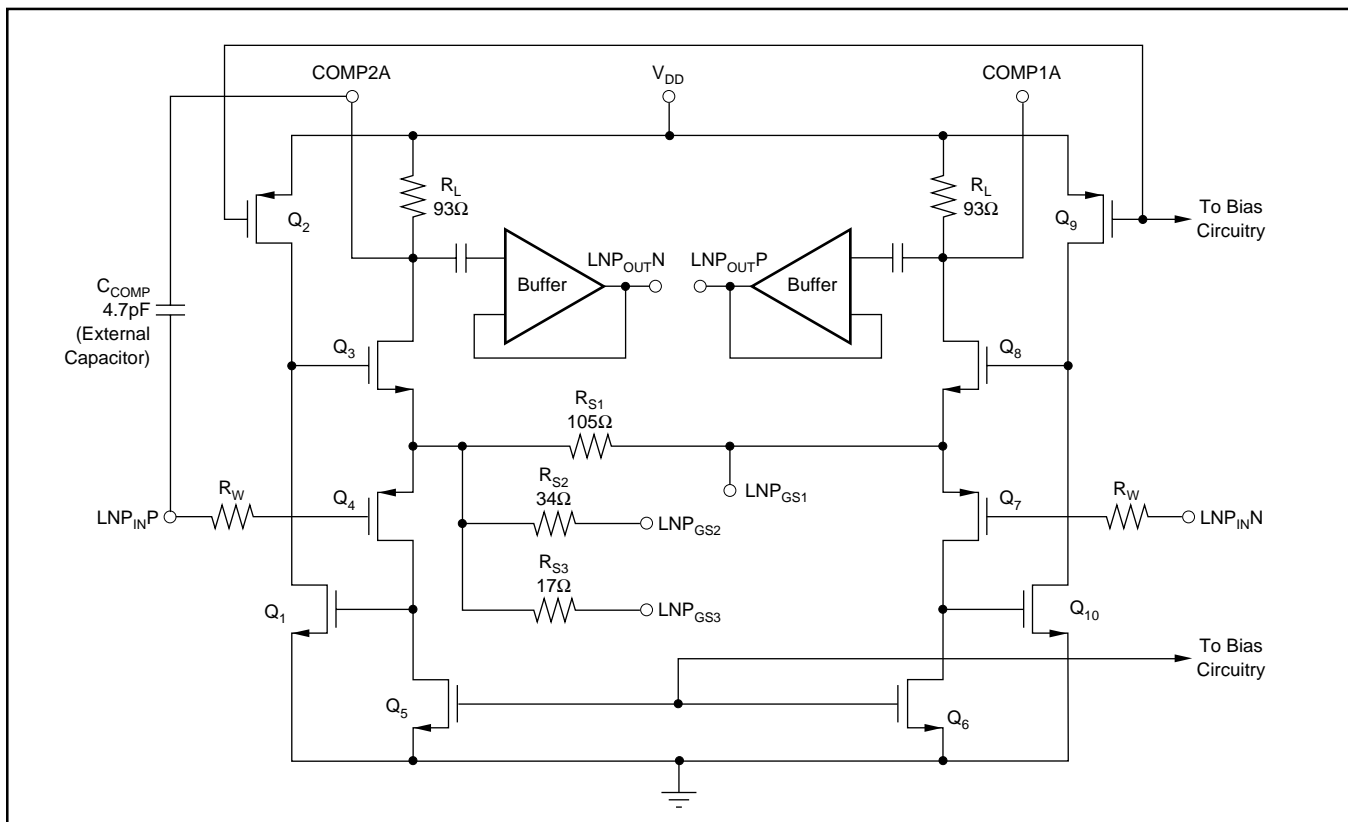
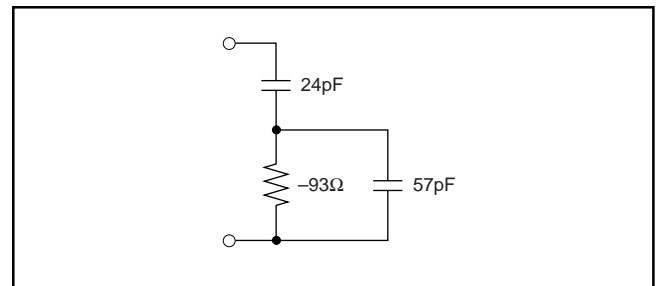

FIGURE 4. Schematic of the Low Noise Preamp (LNP).
FIGURE 11. VCA2613 Input Impedance.
The LNP is designed to achieve a low noise figure, especially when employing active termination. Figure 4 is a simplified schematic of the LNP, illustrating the differential input and output capability. The input stage employs low resistance local feedback to achieve stable low noise, low distortion performance with very high input impedance. Normally, low noise circuits exhibit high power consumption due to the large bias currents required in both input and output stages. The LNP uses a patented technique that combines the input and output stages such that they share the same bias current. Transistors *Q₄* and *Q₅* amplify the signal at the gate-source input of *Q₄*, the +IN side of the LNP. The signal is further amplified by the *Q₁* and *Q₂* stage, and then by the final *Q₃* and *R_L* gain stage, which uses the same bias current as the input devices *Q₄* and *Q₅*. Devices *Q₆* through *Q₁₀* play the same role for signals on the -IN side.
It is also possible to create other gain settings by connecting an external resistor between $LNPG_{S1}$ on one side, and $LNPG_{S2}$ and/or $LNPG_{S3}$ on the other. In that case, the internal resistor values shown in Figure 4 should be combined with the external resistor to calculate the effective value of R_S for use in Equation (1). The resulting expression for external resistor value is given in Equation (2).
where R_{EXT} is the externally selected resistor value needed to achieve the desired gain setting, R_{S1} is the fixed parallel resistor in Figure 4, and R_{FIX} is the effective fixed value of the remaining internal resistors: R_{S2} , R_{S3} , or $(R_{S2} \parallel R_{S3})$ depending on the pin connections.
For greatest flexibility and lowest noise, the user may wish to shape the frequency response of the LNP. The COMP1 and COMP2 pins for each channel (pins 10 and 11 for channel A, pins 26 and 27 for channel B) correspond to the drains of Q_3 and Q_8 , see Figure 4. A capacitor placed between these pins will create a single-pole low-pass response, in which the effective R of the RC time constant is approximately 186Ω .
The VCA2612 and the VCA2613 are very similar in performance in all respects, except in the area of noise performance. See Figure 4 for a schematic of the LNP. The improvement in noise performance is because the input wiring resistor (R_W) of the VCA2613, see Figure 4, has been considerably reduced compared to the VCA2612. This brings the input noise of the VCA2613 down to $1.0\text{nV}/\sqrt{\text{Hz}}$ compared to VCA2612's $1.25\text{nV}/\sqrt{\text{Hz}}$. The input impedance at the gate of either Q_4 or Q_7 can be approximated by the network shown in Figure 11. The resistive component shown in Figure 11 is negative, which gives rise to unstable behavior when the signal source resistance has both inductive and capacitive elements. It should be noted that this negative resistance is not a physical resistor, but an equivalent resistance that is a function of the devices shown in Figure 4. Normally, when an inductor and capacitor are placed in series or parallel, there is a positive resistance in the loop that prevents unstable behavior.